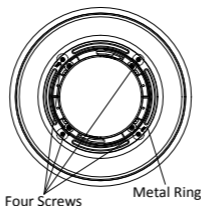

Figure 2-21 Unscrew the Screws
- 2) Unscrew the four screws on the metal ring, as shown in Figure 2-21.